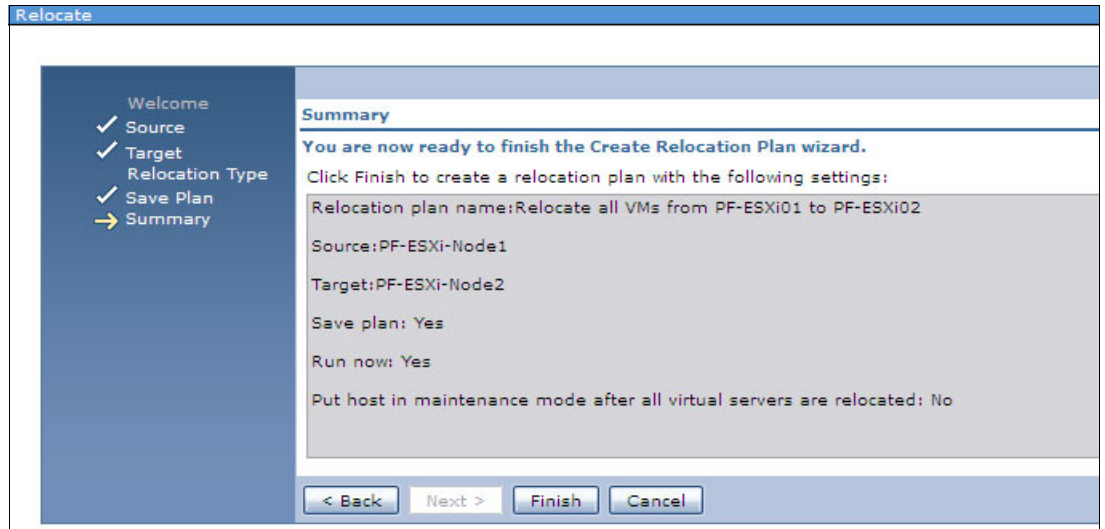

Figure 11-36 Relocate Summary window
5. Review the Summary window and click **Finish**, see Figure 11-36.